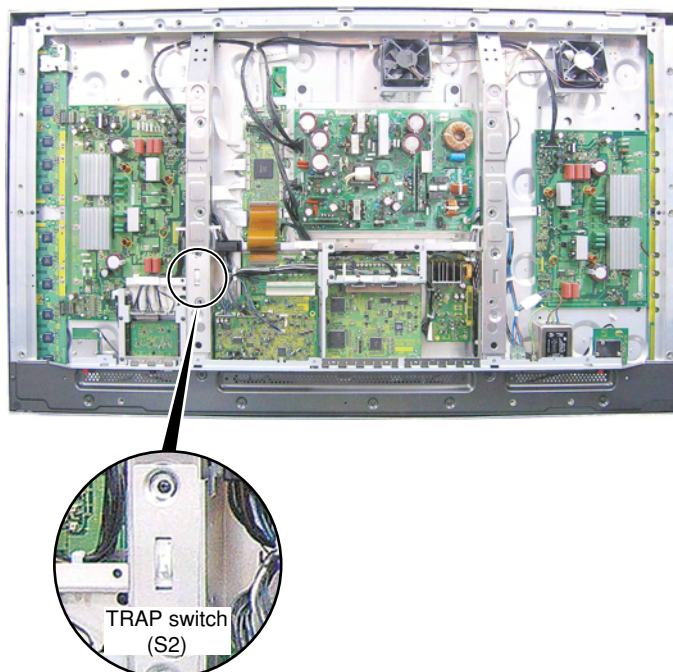

Fig.2 TRAP switch
- The TRAP switch is located on the chassis (see Fig.2 below).